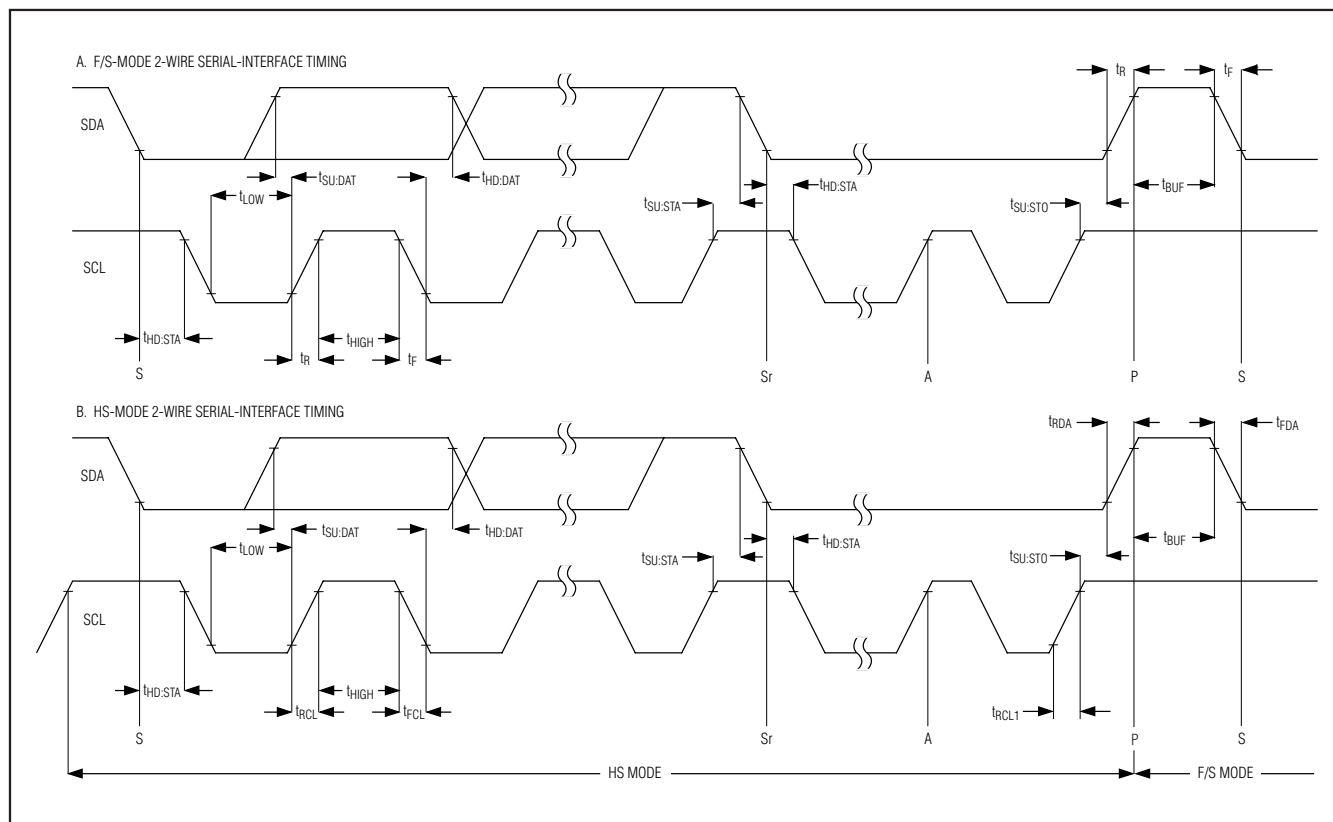

Figure 1. 2-Wire Serial-Interface Timing
## TIMING CHARACTERISTICS (Figure 1) (continued)
**Note 11:** A master device must provide a data hold time for SDA (referred to VIL of SCL) to bridge the undefined region of SCL's falling edge (see Figure 1).
high-speed mode (HS mode) to achieve conversion rates up to 94.4ksps. Figure 1 shows the bus timing for the MAX11646/MAX11647's 2-wire interface.